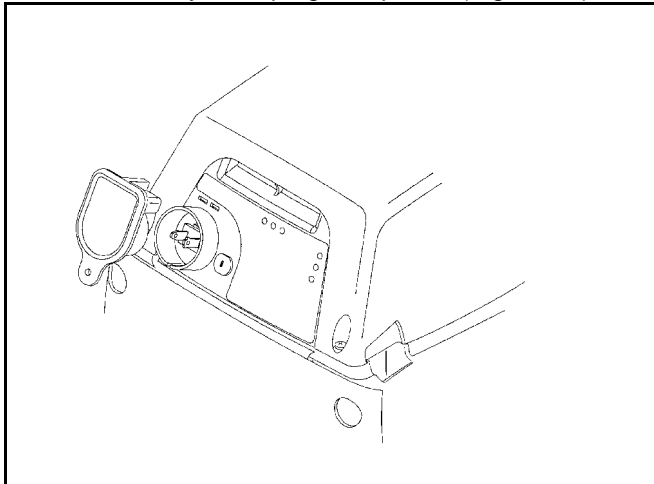

Figure 23
1. Remove key from plug receptacle (Figure 23).